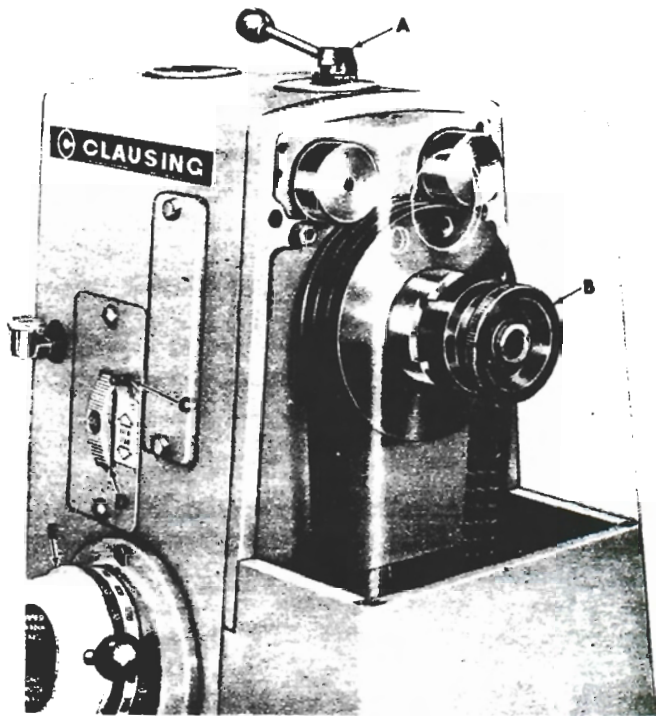

Figure 6
1. Disengage coupling (B, fig. 6) from drive pulley by pulling away from column.
2. Move release pin (C) to right, hold momentarily and turn wheel (D). Release pin and continue turning wheel until the word "IN" appears, and pin indexes in place.